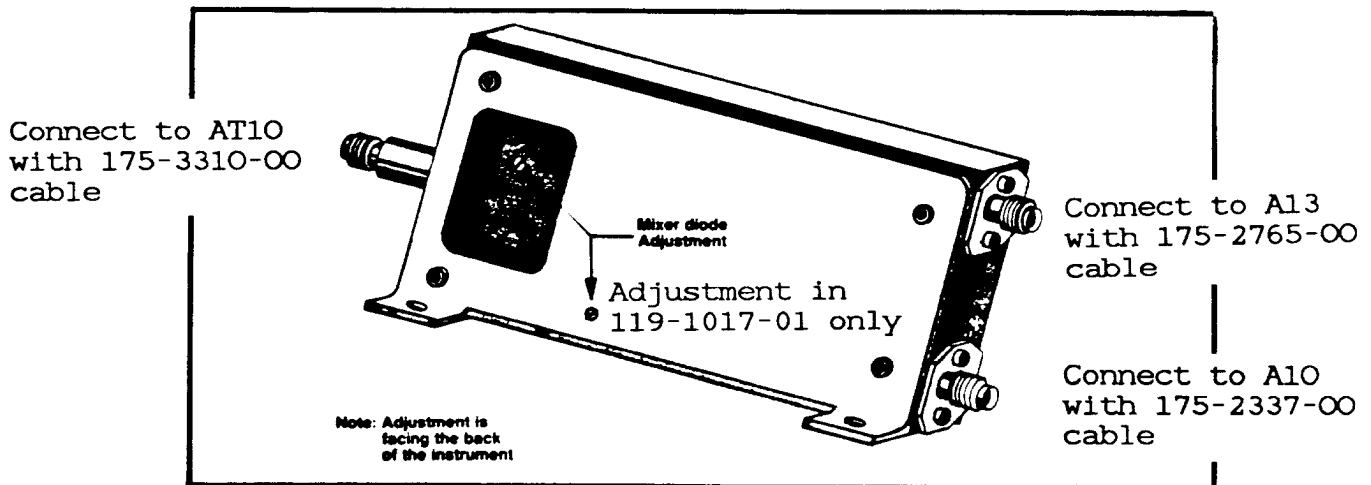

Fig.4-23A First Converter test equipment setup.
a. Remove the First Converter assembly from the spectrum analyzer, and connect the cables as shown in Fig.4-23A.
k. Alternately adjust R1013 and the adjustments on the 1st Converter (see Fig.4-23A) until the bandwidth, at the 6 dB point, matches the bandwidth of the previously displayed 2 MHz signal.